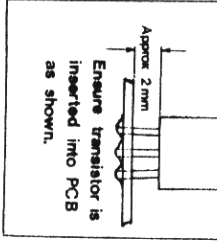

FIG. 2.
- 4) Referring to FIG. 2, fit Resettable fuses F1 through F5. Trim leads to length and solder.
- 3) Referring to FIG 2, fit R118 in position shown using ceramic beads at each end. Trim leads to length and solder.